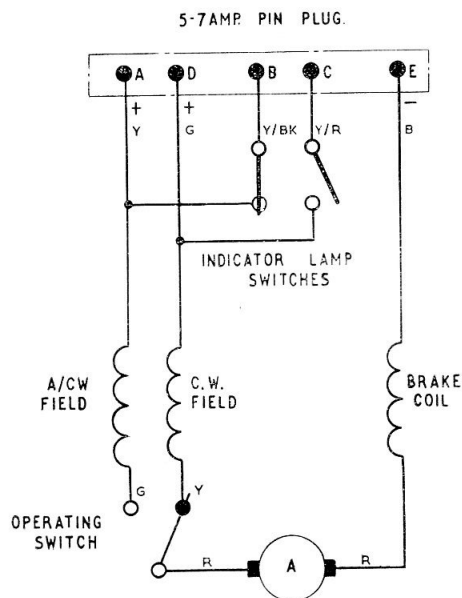

Fig. 2. Circuit Diagram
(3) There are two warning light switches as shown in fig. 2, which operate 8 to 10 deg. before the end of travel.